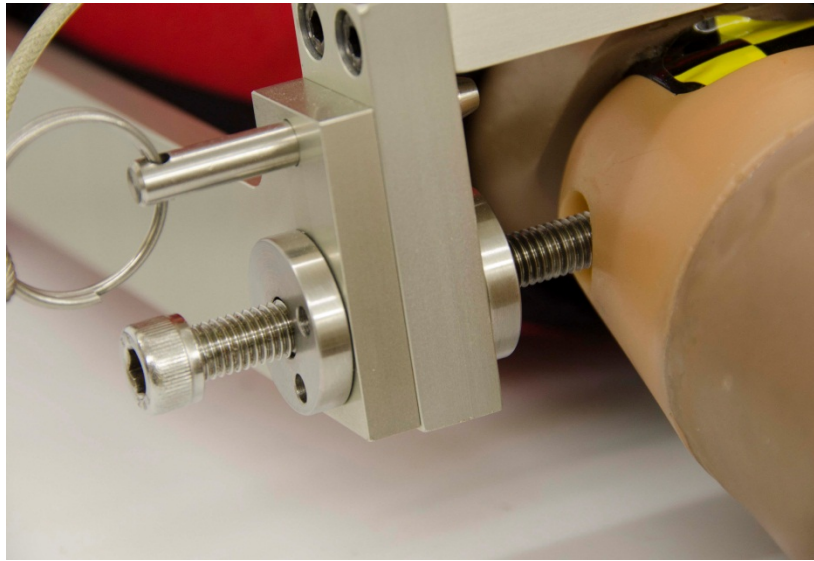

Figure 66. Position bolts into the knee
- Be sure the bolts on the positioning tool are correctly seated into the knee (Figure 66).